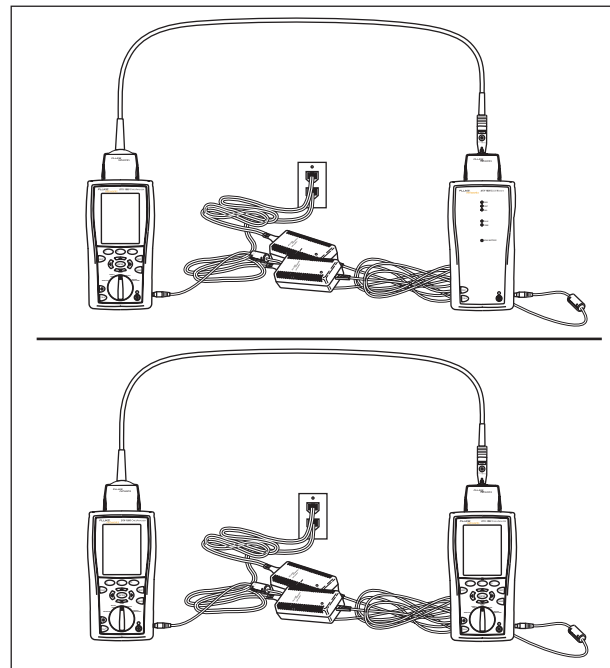

Figure 22. Updating the Software with an Updated Tester
- 1 Use link interface adapters to connect an updated tester or smart remote to a tester or smart remote that needs updating (Figure 22).